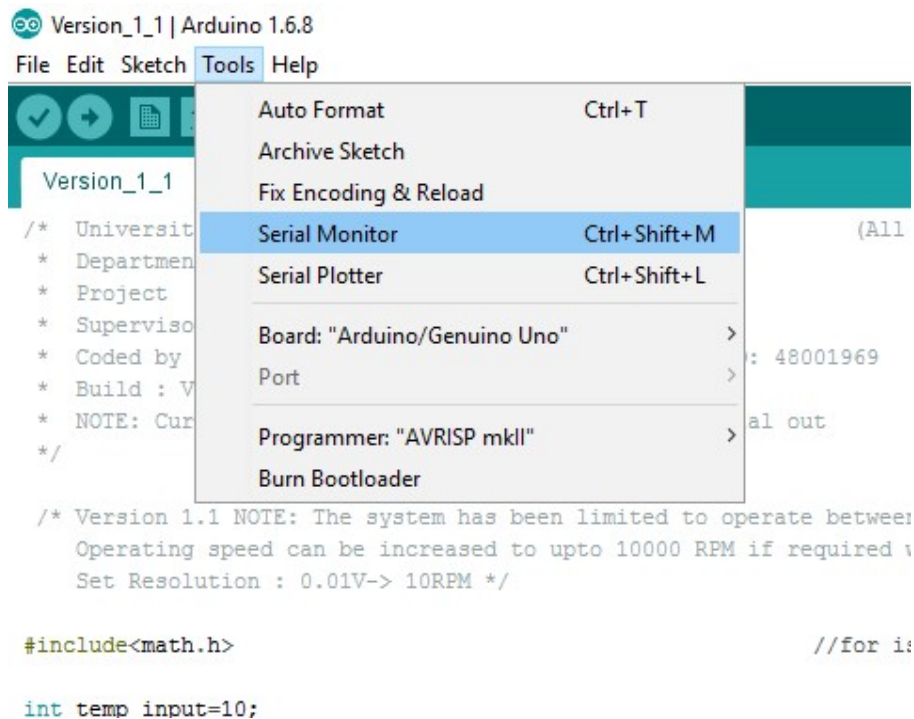
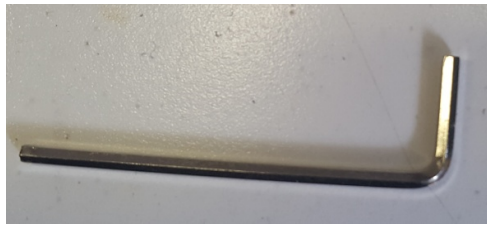

Figure 15 Serial Monitor
Figure 16 The Allen/Hex key
7. Open the Arduino application. The working version is Build 1.1. After opening the application, go to the menu shown in Fig 15 and select the active port. The active port will be available for selection and will be named differently for different computers. After selecting the active port, the menu will change to the screen shown in Fig 16.